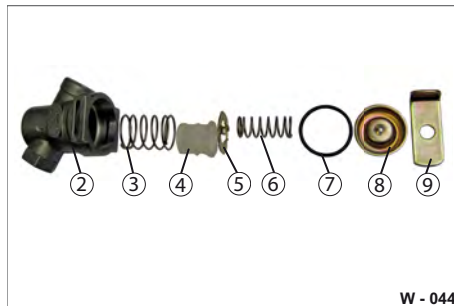

Fig. 48 Line filter disassembled
- Press the cap (Fig. 48/8) downwards with a screwdriver and pull out the angle (Fig. 48/9).
- Remove both springs (Fig. 48/3 & Fig. 48/6), the seal (Fig. 48/7), the intermediate plate (Fig. 48/5) and the filter (Fig. 48/4).
- Clean the filter housing (Fig. 48/2) with a clean, dry cloth.
- Clean the filter (Fig. 48/4). Replace the filter in the event of major contamination or damage.
- Check if the seal (Fig. 48/7) is present or damaged. Replace damaged seals.
- ▶ Set the small springs (Fig. 48/6) on the latches of the intermediate plate.
- ▶ Set the cover (Fig. 48/8) on top.